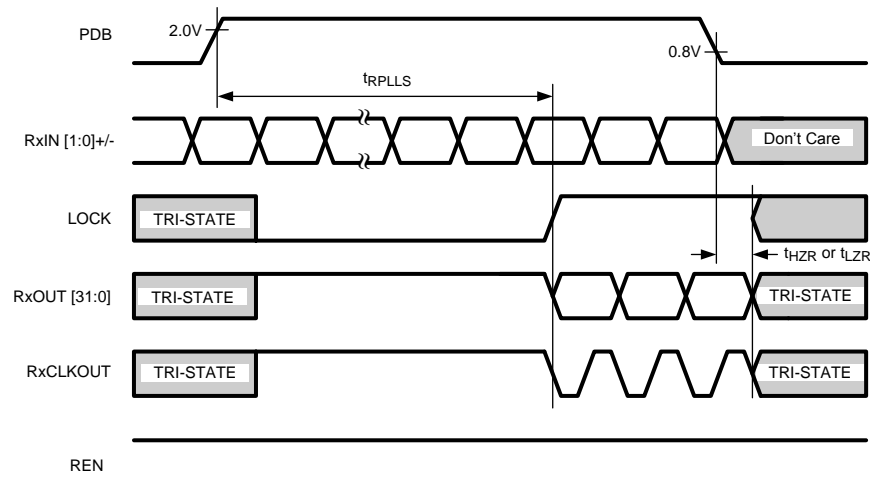

Figure 11. Deserializer PLL Lock Time and PDB TRI-STATE Delay
| t_{HZR} | Data Output High to TRI-STATE Delay | Figure 11 | | 5 | 10 | ns |
| t_{RPLLS} | Deserializer PLL Lock Time | 20 MHz – 50 MHz Figure 11 See (1) | | | $128k \times t_{ROCP}$ | ns |
The DES enters Powerdown mode when DES PDB is driven low. In Powerdown mode, the PLL's stop and the outputs enter TRI-STATE. To bring the DES block out of the Powerdown state, the system drives DES PDB high. Both the SER and DES must relock before data can be transferred from Host and received by the Target. The DES will startup and assert LOCK high when it is locked to the embedded clocks. See also Figure 11.
When you drive the REN or DES PDB pin low, the DES output pins (RxOUT[31:0]) and RxCLKOUT will enter TRI-STATE. The LOCK output remains active, reflecting the state of the PLL. The DES input pins are high impedance during receiver Powerdown (DES PDB low) and power-off ($V_{DD} = 0\text{V}$). See also Figure 11.